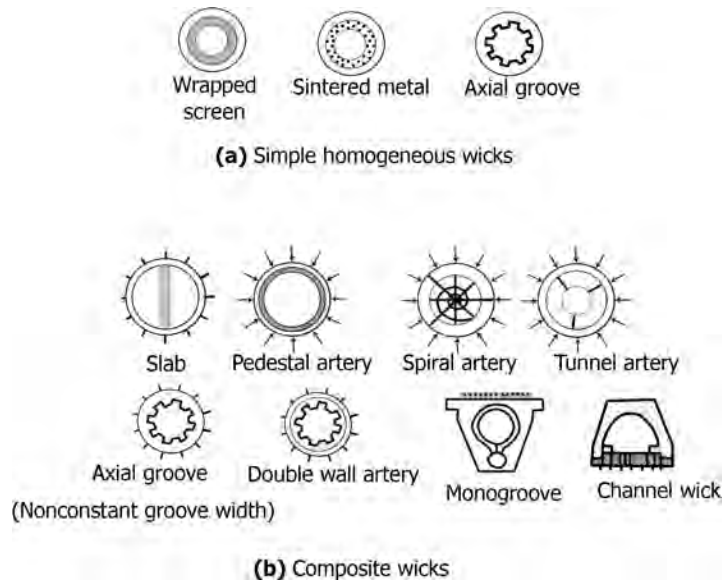

FIGURE 13.25 Typical heat pipe wick configurations and structures.
- There are several types of wick structures: screen, grooves, felt, and sintered powder. Figure 13.25 illustrates some of the structures.